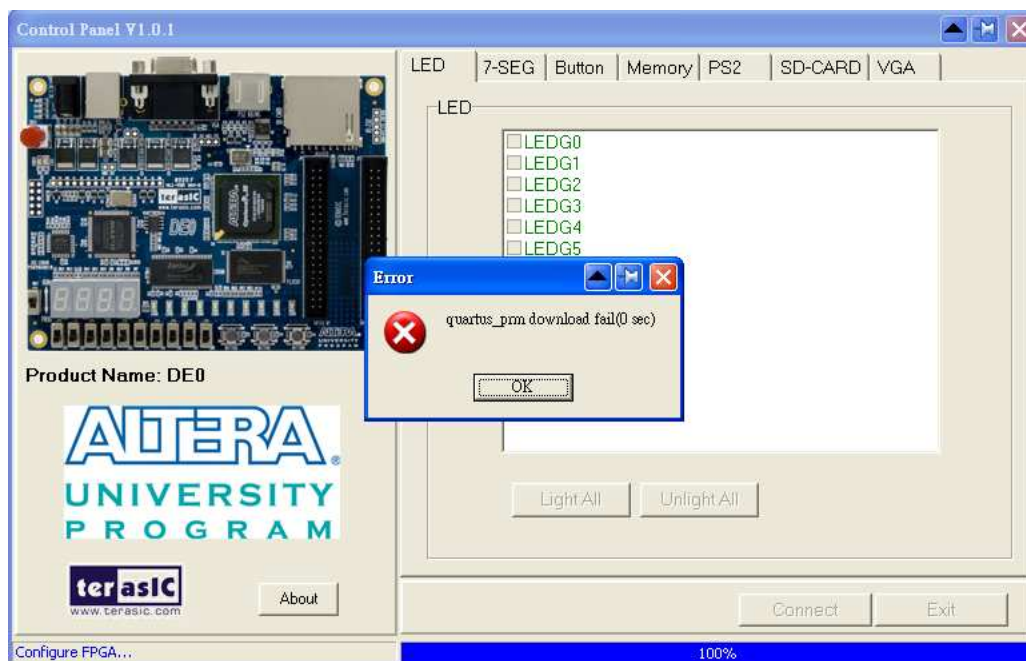

Figure 3.2. The error message of the DE0 Control Panel.
5. **When the control panel window appears, it will automatically download the bit stream file .sof into the FPGA. If any error message shows up as shown in Figure 3.2, please check steps 1 to 3 has been performed. Then, click *Download Code* button to program FPGA again. Note, the Control Panel will occupy the USB port until you close that port; you cannot use Quartus II to download a configuration file into the FPGA until you close the USB port.**